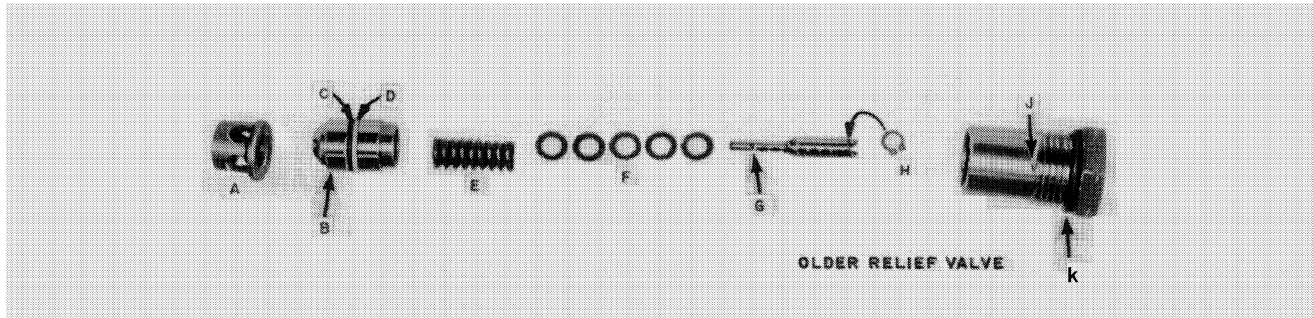
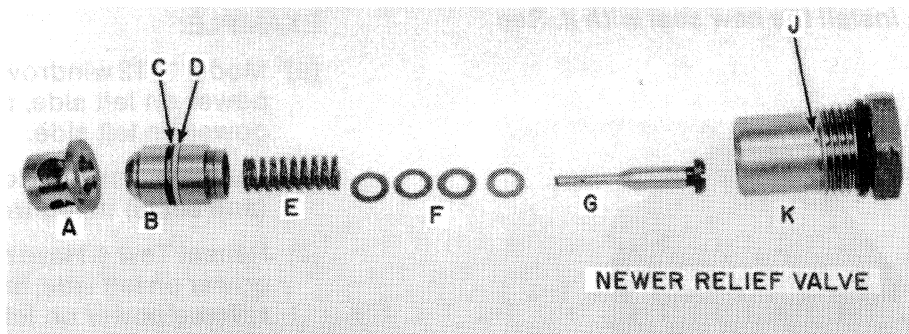

FIGURE 20
FIGURE 21
Figure 20 shows an older style relief valve with a snap ring on the valve spool. This relief valve is replaced by a newer relief valve for production and service of older transmission. The newer relief valve uses a spool WITHOUT a groove and snap ring, Figure 21.
5. Make sure passage and small port in valve spool are not plugged. See dotted line, Figure 20.